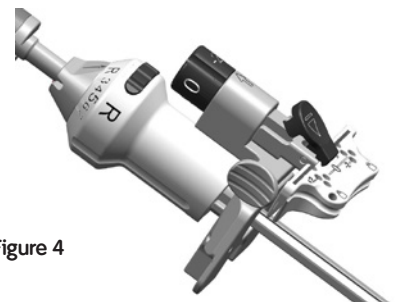

Figure 4
3. Attach the Distal Femoral Cutting block onto the Bridge. Positioning the block and the dial on the adjustable bridge at the primary ("0") resection level will ensure the cut will equal the distal thickness of the femoral prosthesis (Figure 4).